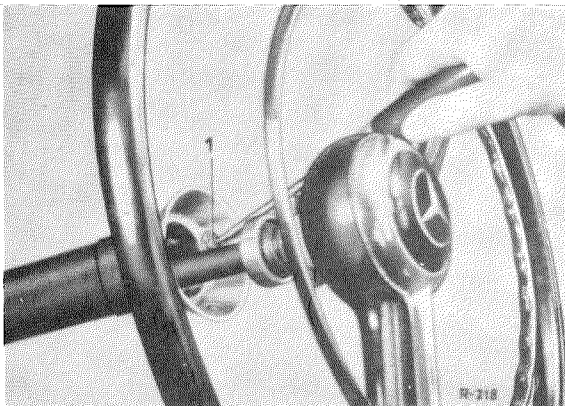

Fig. 26 — 11/1
Then screw out the grub screw in the steering column jacket (see Fig. 26 — 12/1).
3. Pull up the steering wheel together with the steering tube until the annular grooved bearing is above the upper edge of the steering column jacket so that the steering tube can be moved to the side (Fig. 26 — 11/1).
4. Turn the guide pin (1) 180° with a screw driver (Fig. 26 — 11/1) and remove the snap ring together with the shim and the upper rubber ring (see Fig. 26 — 11/2).